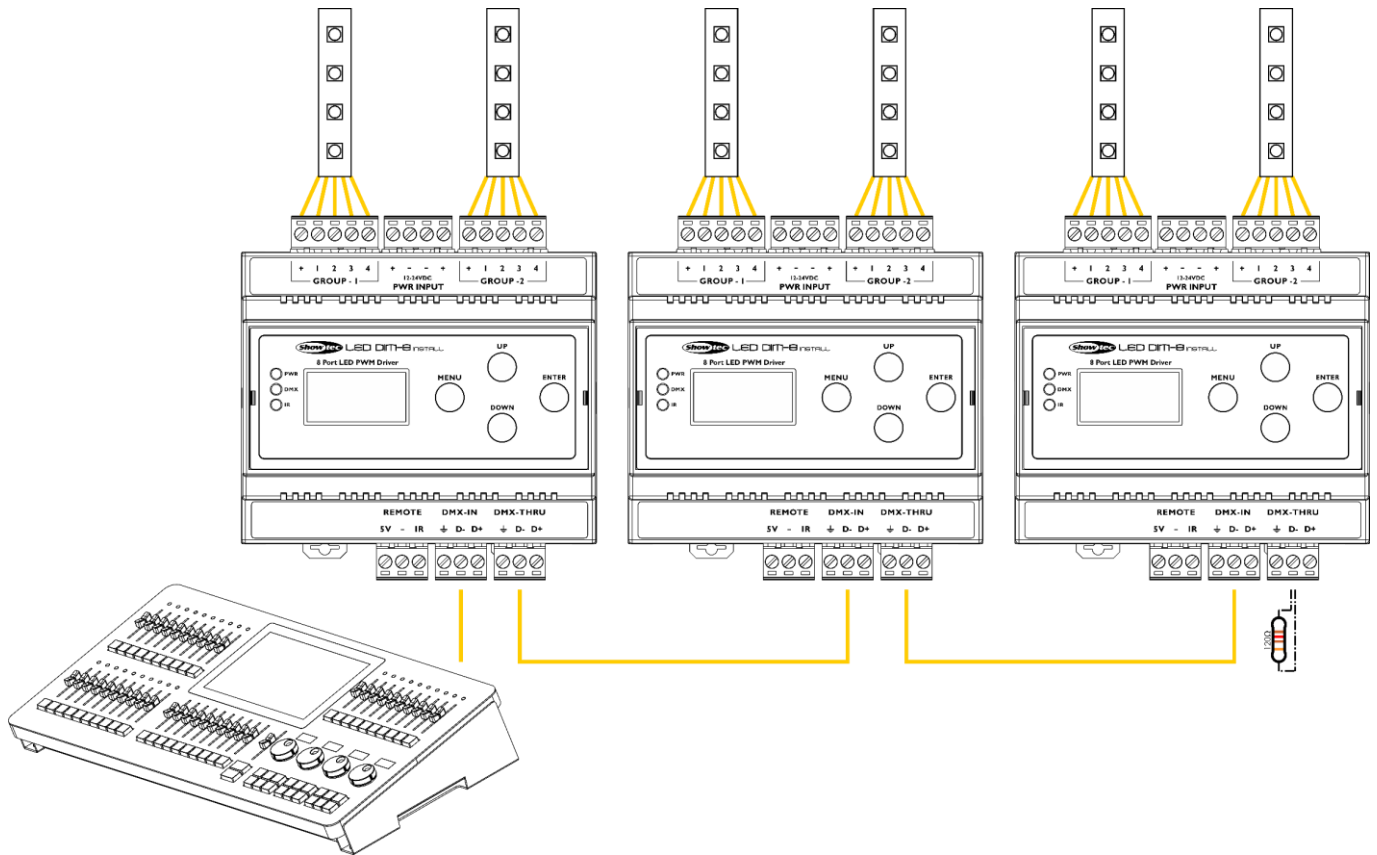

Fig. 11
- 03) Connect a second device to the **3-pin Phoenix terminal connector DMX THRU (05)**, if you want to control multiple devices on one DMX data link. Make sure that the cables are connected correctly.
05) Repeat steps 3–4 to connect all devices in a daisy-chain as shown in Fig. 11.